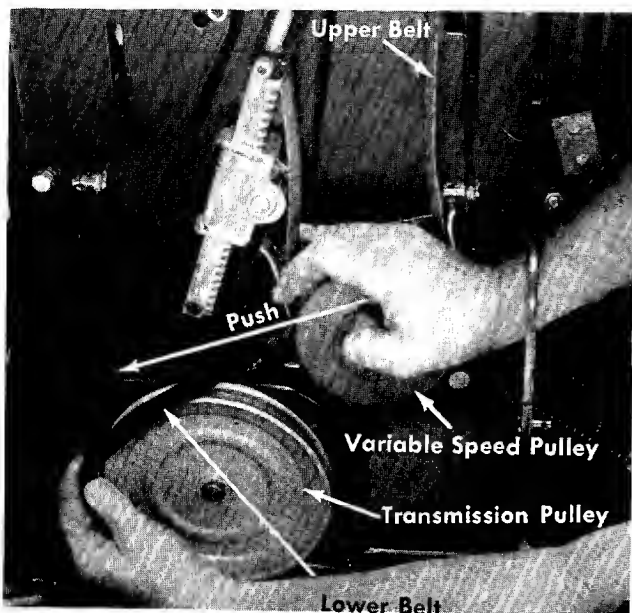

FIGURE 31. LOWER BELT REMOVAL
Step 8. Remove the engine belt guard by removing the two front engine mounting bolts. See figure 31.
Step 10. While pushing the variable speed pulley towards the center of the rider, remove the lower belt from the transmission pulley. See figure 31.